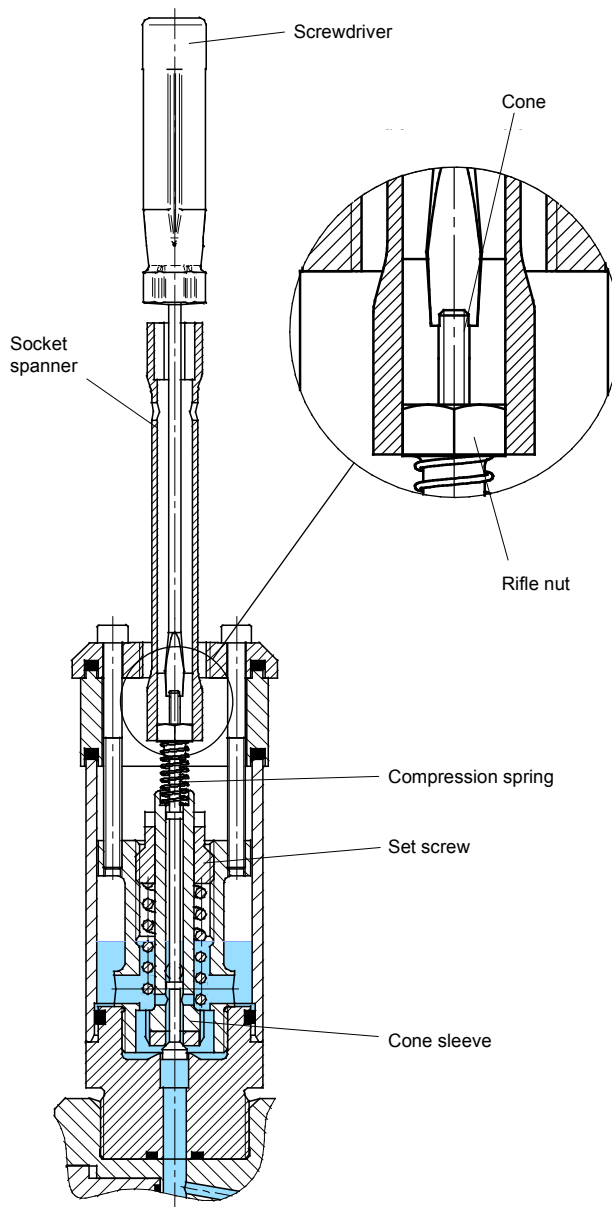

Fig. 56
- Secure cone of blow valve with a screwdriver against distortion and turn rifle nut using the socket spanner (see Fig. 56).